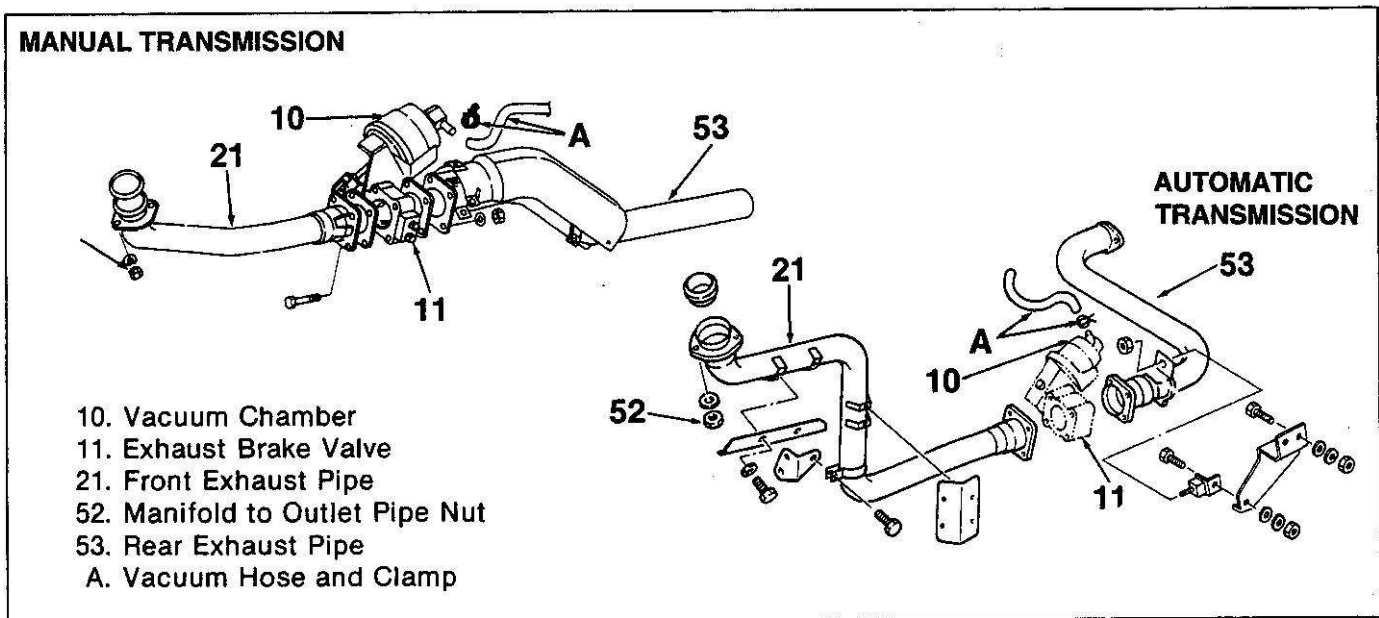

Figure 15. Engine Brake Valve
- Refer to figures 15, 16, 17, 18 and 19.
- The exhaust brake valve (11), vacuum chamber (10) and related components are located at the left rear of the engine (figure 15).